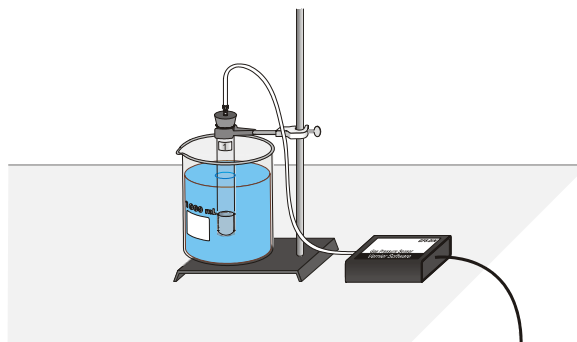

Figure 1
7. Insert the single-holed rubber-stopper into the test tube. **Note:** *Firmly* twist the stopper for an *airtight* fit. Secure the test tube with a utility clamp and ring-stand as shown in Figure 1.